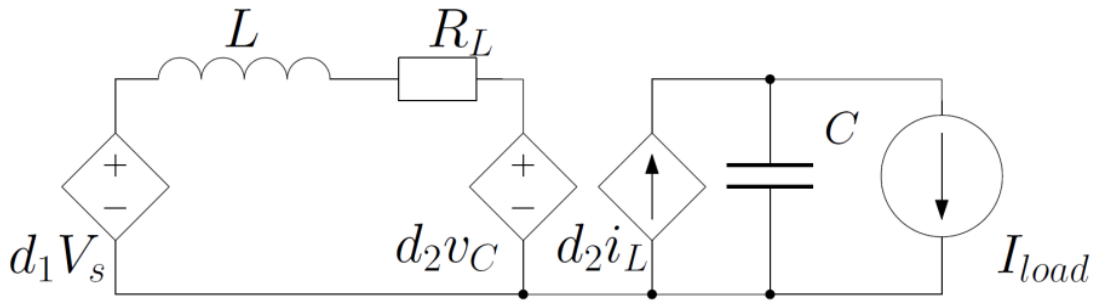

Figure 5. The equivalent averaged circuit.
The equivalent *averaged* system is produced by averaging the behaviour of the system within one sampling period, as shown in Figure 5.
1. Derive and write down the averaged model of the DC-DC Buck-Boost converter, as described in Figure 5. Linearise the model around the equilibrium point $x_{eq}=[20 \ 0.4]^T$ and derive the linearised state space representation. [2 points]